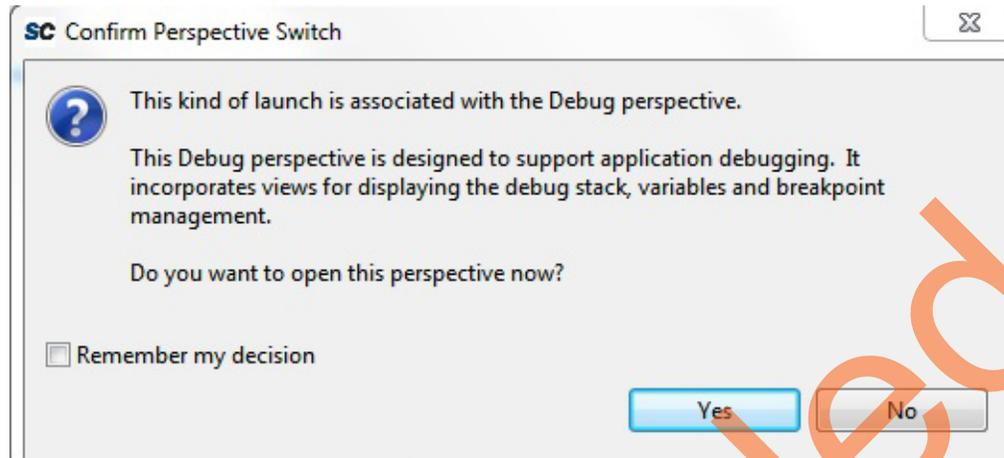

Figure 42 • Confirm Perspective Switch
- Click **Yes**, when prompted for **Confirm Perspective Switch**. This displays the debug view mode as shown in Figure 42.